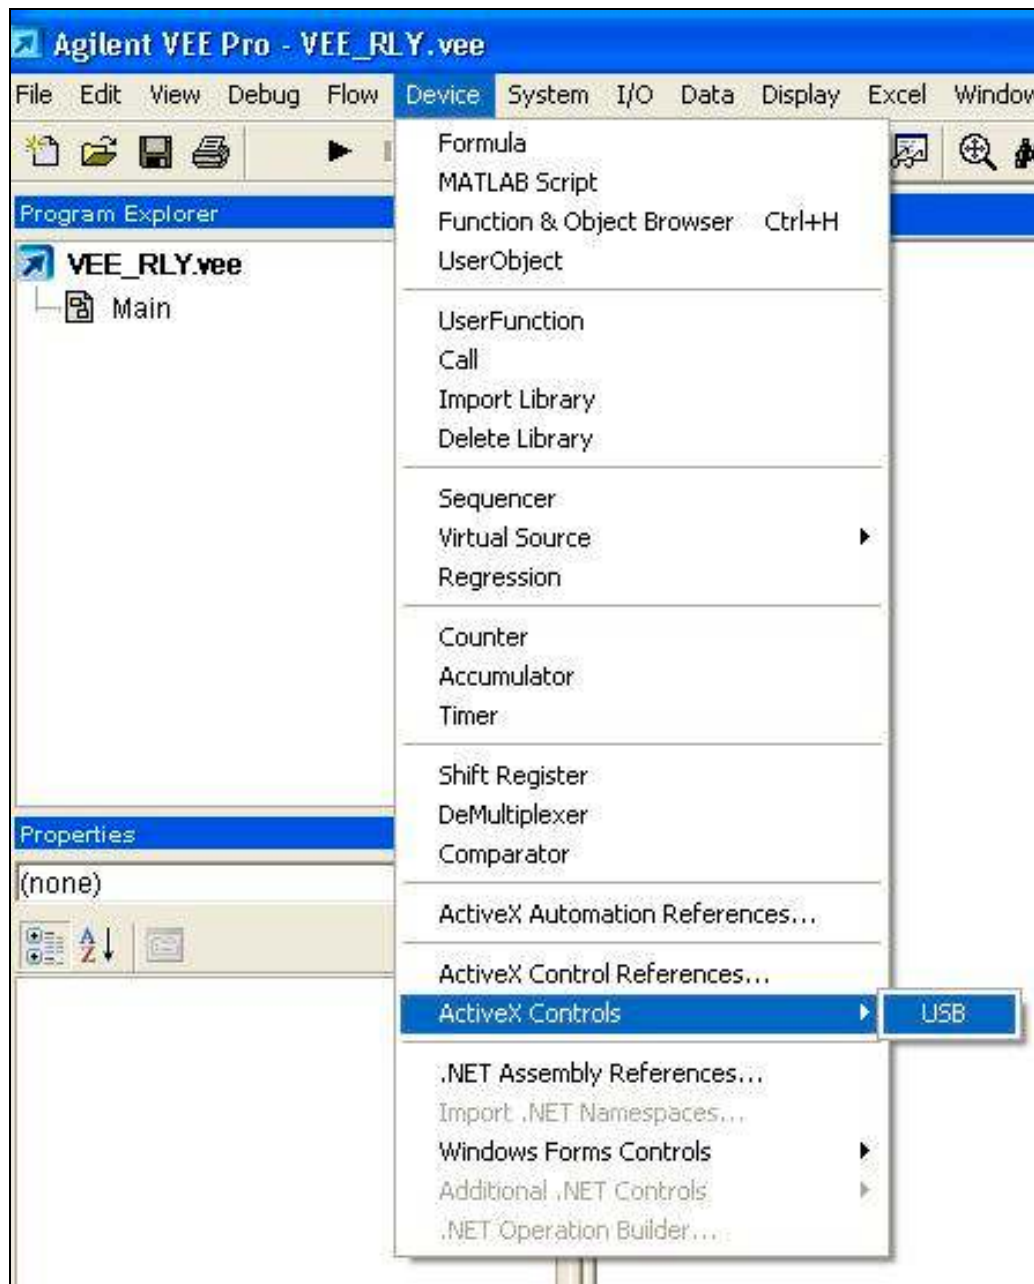

Figure 3.
4. After pressing "OK" nothing will happen on the screen, but the USB.OCX was selected. You have to go back to "Device" from the pull-down menu, select "ActiveX Controls" from the list and double click "USB". See Figure 3.